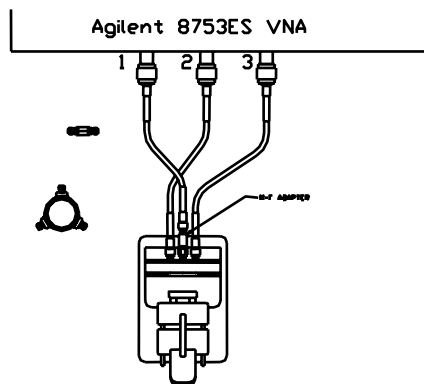

Figure 7 Fixture with Phase Matched Adapter in-place
- 4.1. Connect the VNA to the fixture as shown in Figure 7